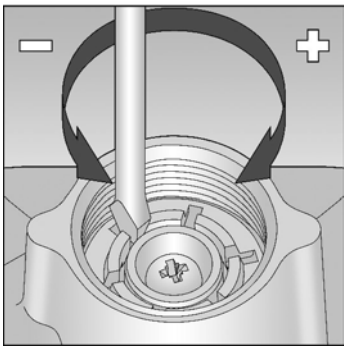

Fig. 11
3. Fully unscrew and remove top spring holder. See Fig. 11.
5. Screw spring holder back in place, ensuring that castellated spigot is uppermost in chimney. See Fig. 11.
10. Screw top spring holder back in place, ensuring that castellated spigot is uppermost in chimney. See Fig. 11. (If UPSS only ensure that spacer tube is firmly clamped).